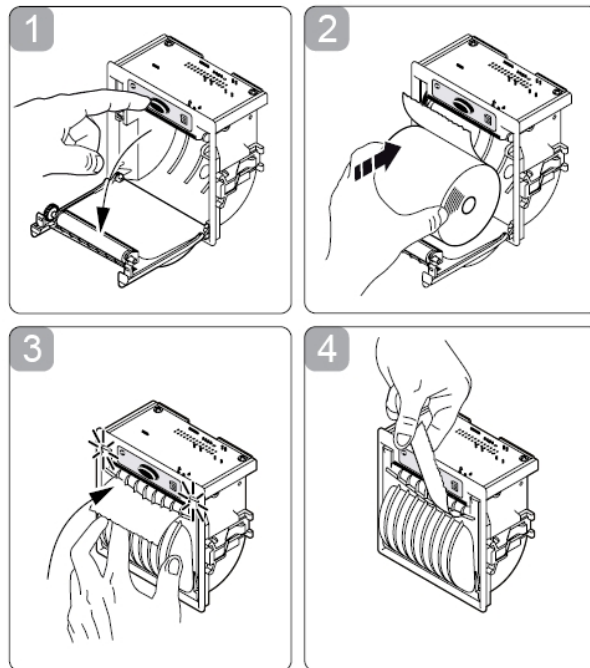

Fig. 3
2. Press the OPEN key to open the printer cover as shown (see Fig. 3/1). Handle the paper cutter carefully not to cut your hand.
3. Place the paper roll making sure it unrolls in the proper direction as shown (see Fig. 3/2).
5. Hold the loose end of the paper with one hand and re-close the cover with the other hand as shown (see Fig. 3/3) the printer cover is locked.
6. Tear off the exceeding paper using the jagged edge (see Fig. 3/4).